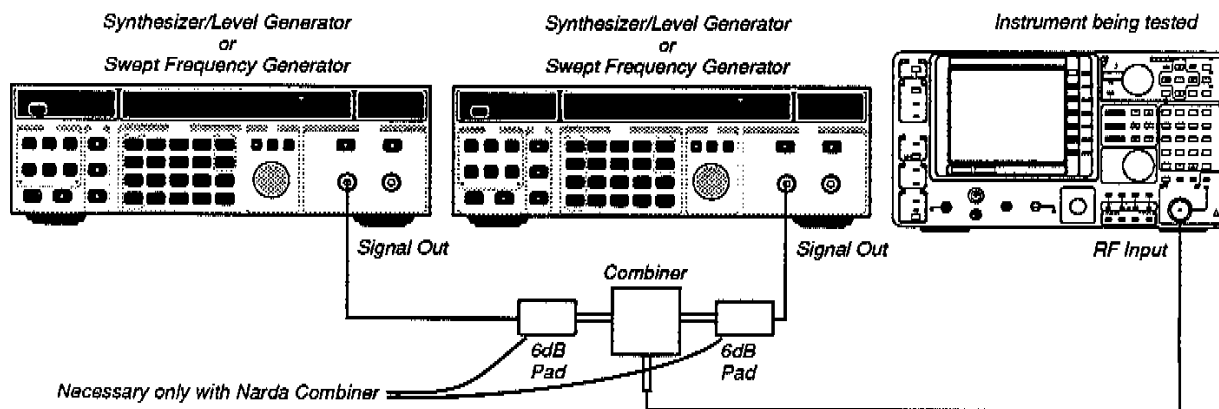

Figure 4-6. Test equipment setup for the Third Order and Second Order Intercept Checks.
2. Connect the two synthesizer/level generators or the swept frequency generators through the Mini-Circuits ZFSC-2-6 Combiner (as shown in Figure 4-6). (Do not use the 6 dB pads with the Mini-Circuits Combiner).
2. Connect the two swept-frequency generators to the Mini-Circuits ZFSC-2-5 combiner as shown in Figure 4-6. (Do not use the 6 dB pads with the Mini-Circuits Combiner.)